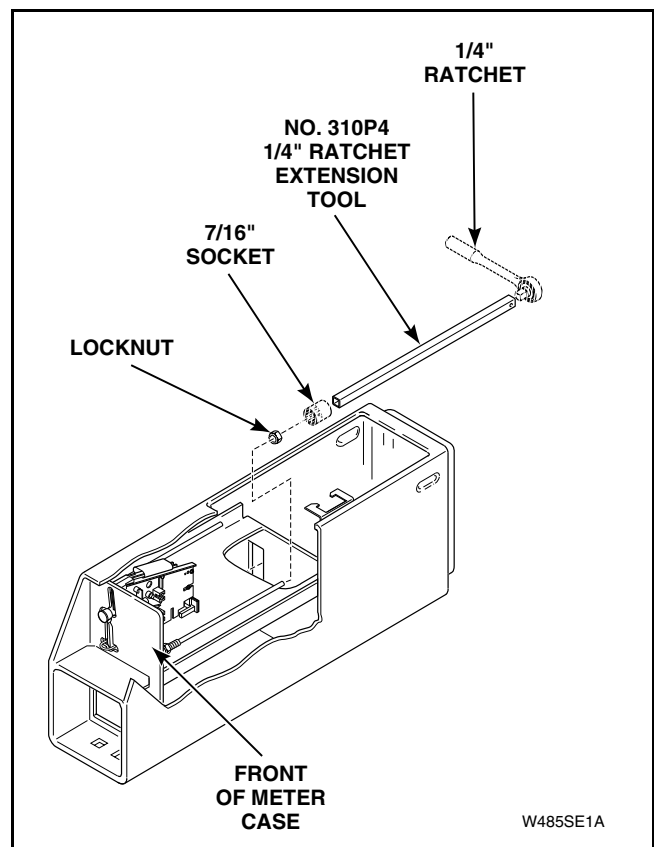

Figure 14
- (4) Use a 7/16 inch socket with No. 310P4 1/4 inch Ratchet Extension Tool and remove two locknuts holding coin drop to front of meter case. Refer to *Figure 14*.
- (5) Lift back end of coin drop and pull straight back until bottom edge of drop's front face plate falls behind the coin drawer housing.
- (6) Carefully lift complete coin drop straight up and out of meter case.